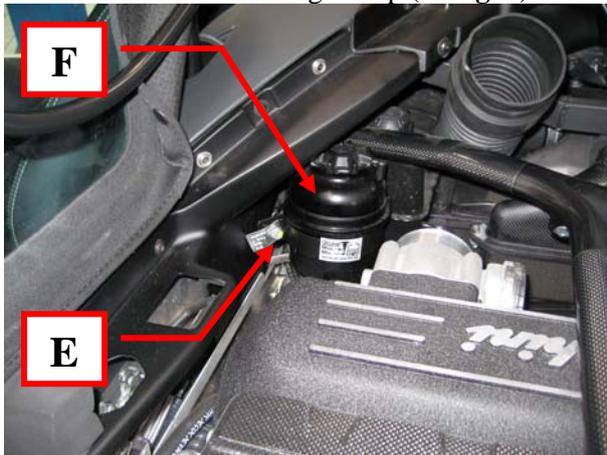

Fig. 5
- Remove the mounting clamp (E-Fig. 5) and release the E-Gear fluid tank (F-Fig. 5).